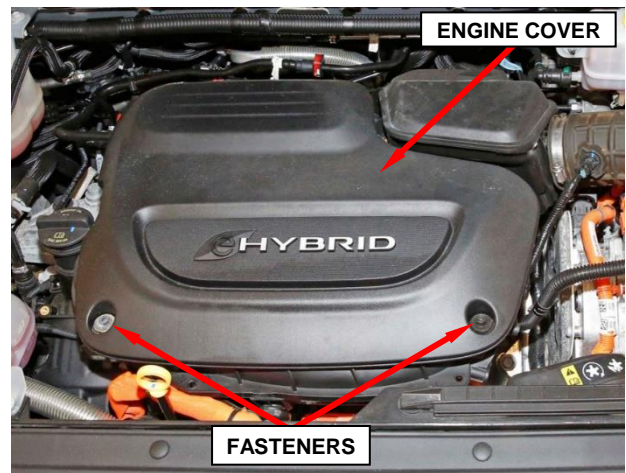

Figure 26 – Engine Cover
2. Remove the engine cover fasteners then release the engine cover rubber mount sockets from the locating pins and remove the engine cover from the engine compartment (Figure 26).
- 47. Install the engine cover (Figure 26).